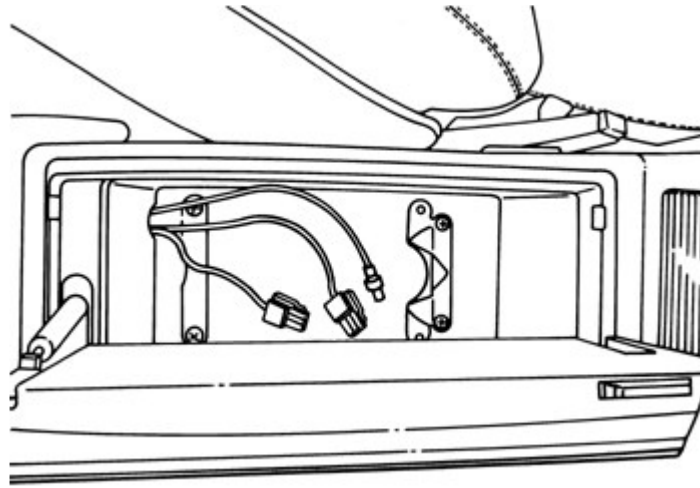

Figure 5
8. Place angular bracket in console with raised edge of bracket pointing towards the rear of the compartment (Figure 5). Secure bracket using the two removed screws.